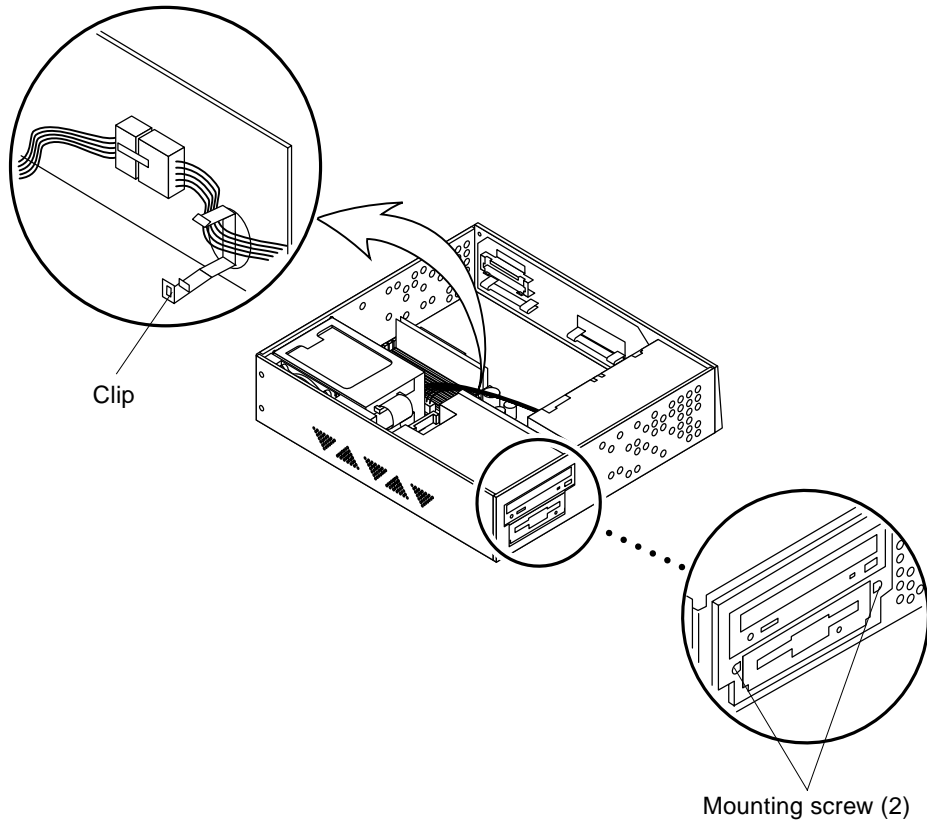
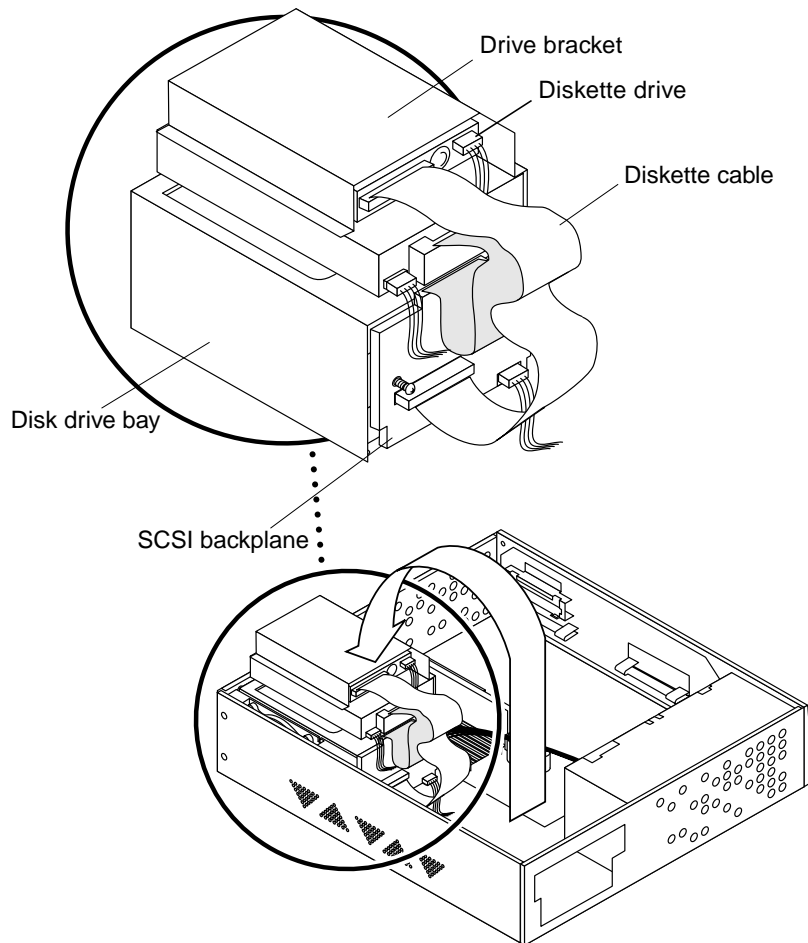
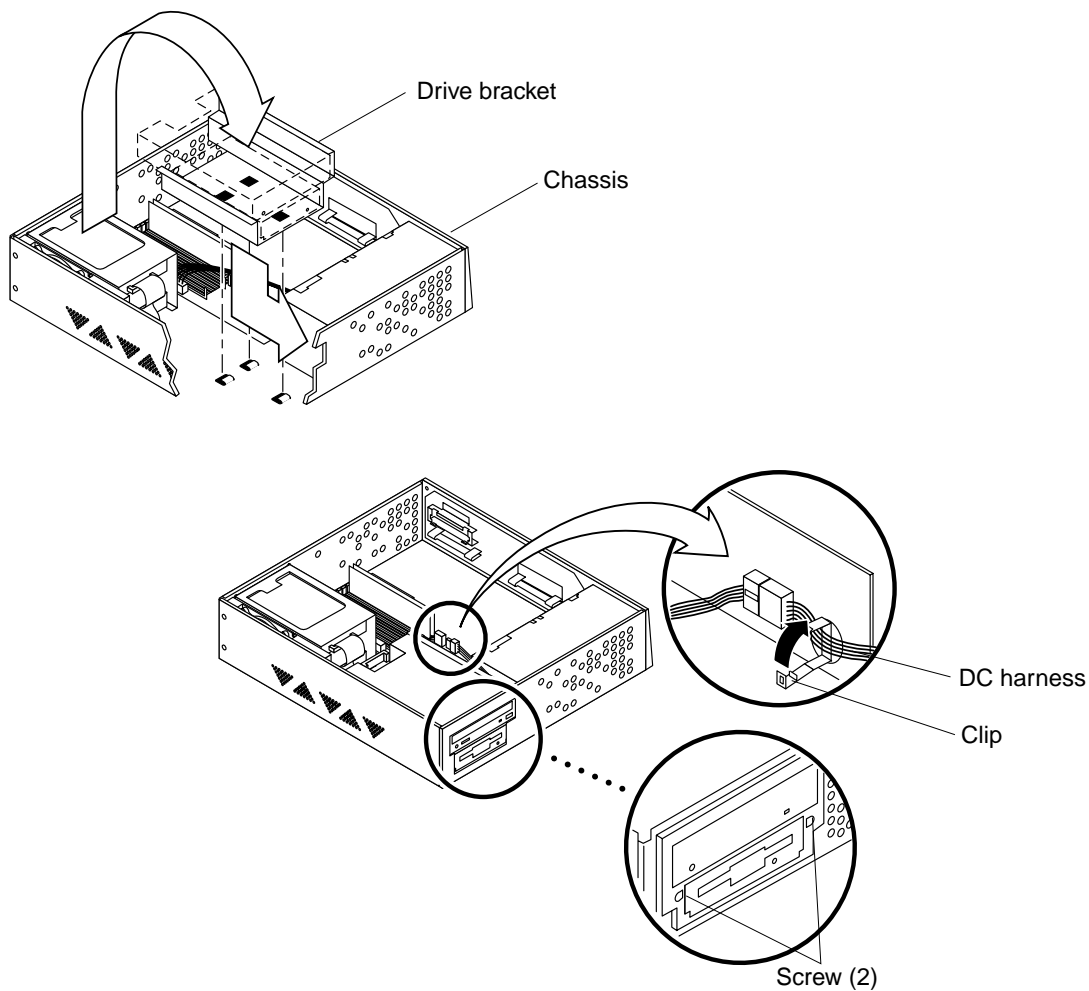

FIGURE 8-11 Removing the Drive Bracket
FIGURE 8-12 Diskette Cable
FIGURE 8-13 Replacing the Drive Bracket
4. Remove the drive bracket as follows (FIGURE 8-11 and FIGURE 8-12):
2. Connect the diskette cable to the diskette drive (FIGURE 8-12).
3. Replace the drive bracket as follows (FIGURE 8-12 and FIGURE 8-13):